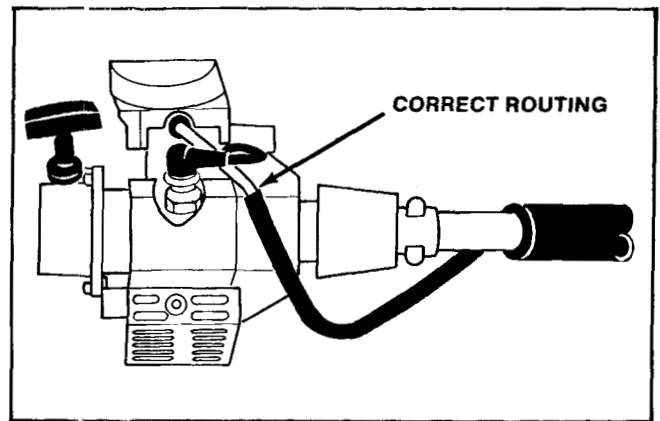

Figure 33
Tighten the screws to .3 to .45 kg m, (25 to 38 in lbs). See Fig. 33.
3. Ensure that the throttle cable is positioned as shown in Figure 33 to prevent throttle cable damage.